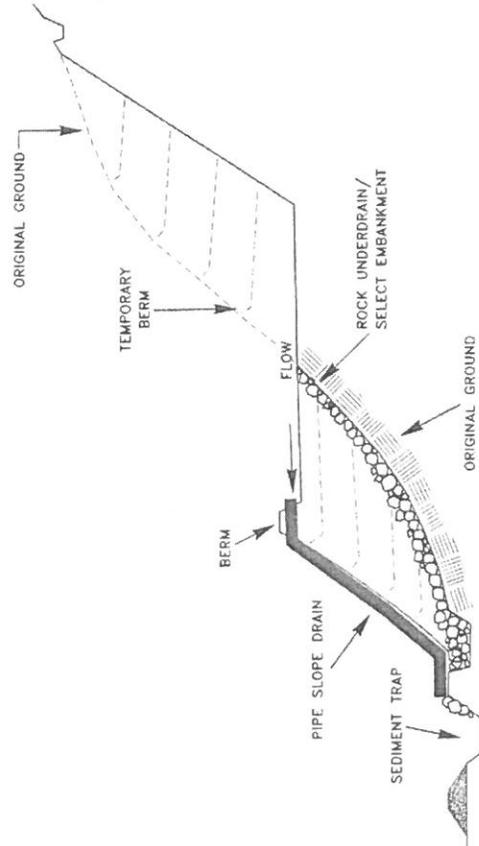
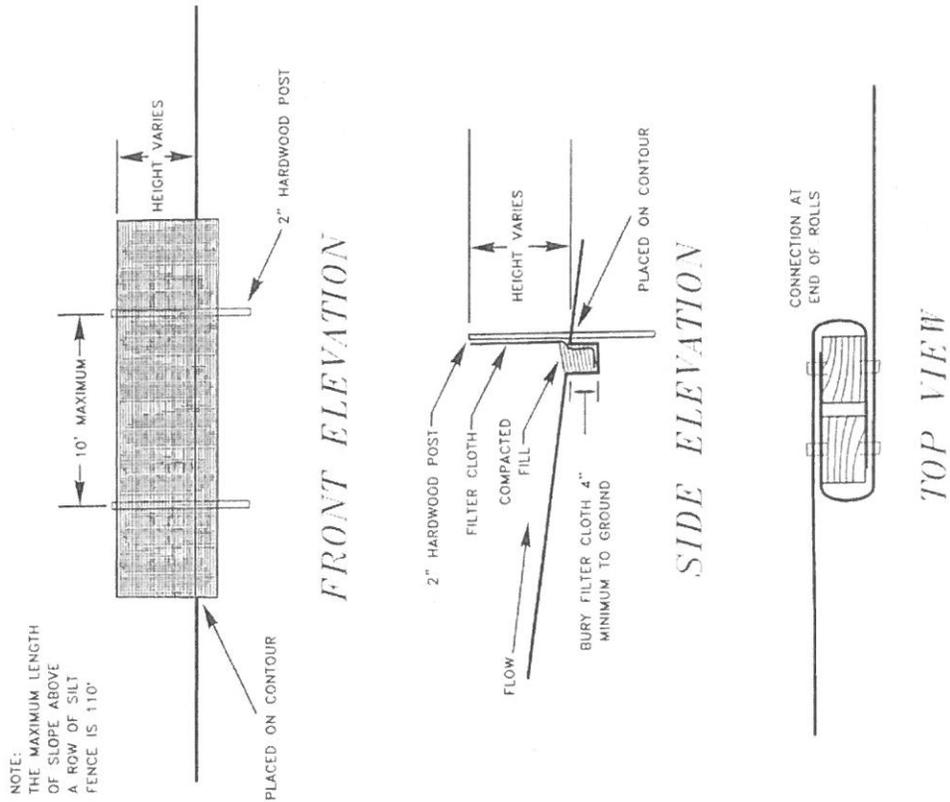

FIGURE 3.27.1
FIGURE 3.28.1
b) FENCE POSTS: THE LENGTH SHALL BE MINIMUM OF 48 INCHES LONG. WOODPOSTS WILL BE OF SOUND QUALITY HARDWOOD WITH A MINIMUM DIAMETER OF TWO (2) INCHES, OR AS APPROVED. STEEL POSTS WILL BE STANDARD T OR U SECTION WEIGHING NOT LESS THAN 1.33 POUNDS PER LINEAR FOOT.
c) WIRE FENCE: WHERE REQUIRED WOVEN WIRE FENCING SHALL BE A MINIMUM SIX (6) INCH MESH OPENINGS, OR AS APPROVED.
4) PREFABRICATED SILT FENCE: PREFABRICATED SILT FENCE WITH POSTS ATTACHED IS AVAILABLE. THIS FENCE IS INSTALLED IN A MANNER SIMILAR TO THAT DESCRIBED ABOVE. WHILE THIS TYPE OF FENCE IS CHEAPER AND EASIER TO INSTALL, IT REQUIRES MORE MAINTENANCE IN ORDER TO PERFORM SATISFACTORILY. (See attached sheets figure 3.27.1 and figure 3.28.1)